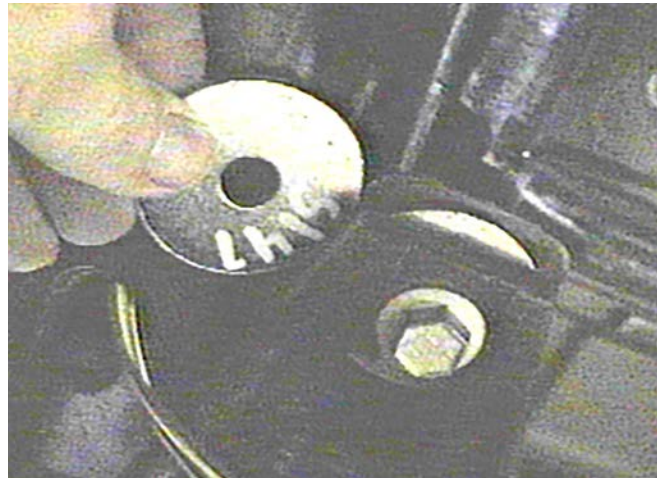

Figure 1
4. If the tow hooks are tilted, use the large spacer on the back hole of each tow hook to make level. See Figure 1. To get access to the tow hook, the belly pan needs to be removed.